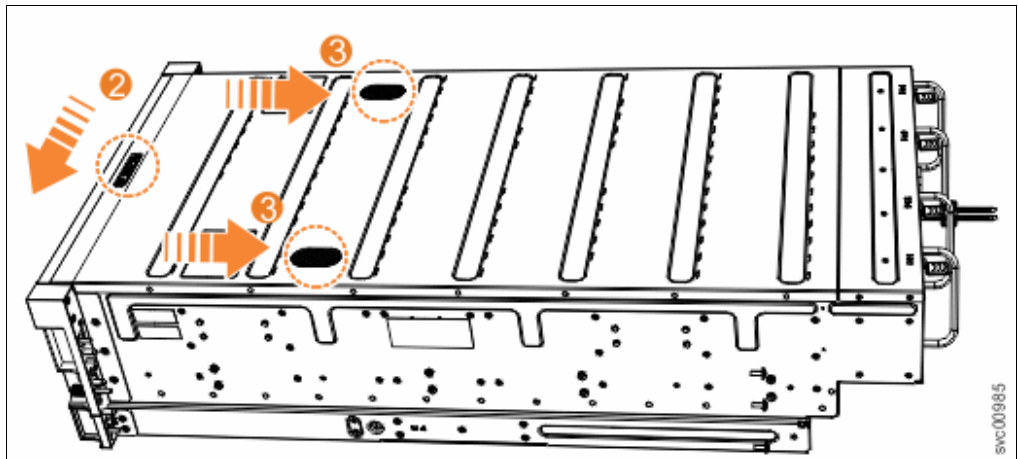

Figure 6-19 Replacing the expansion enclosure top cover
- b. Push the cover release lever **2** to the side, as show in Figure 6-19.
- c. Slide the cover towards the back of the expansion enclosure **3** back until it stops, as shown in Figure 6-19.